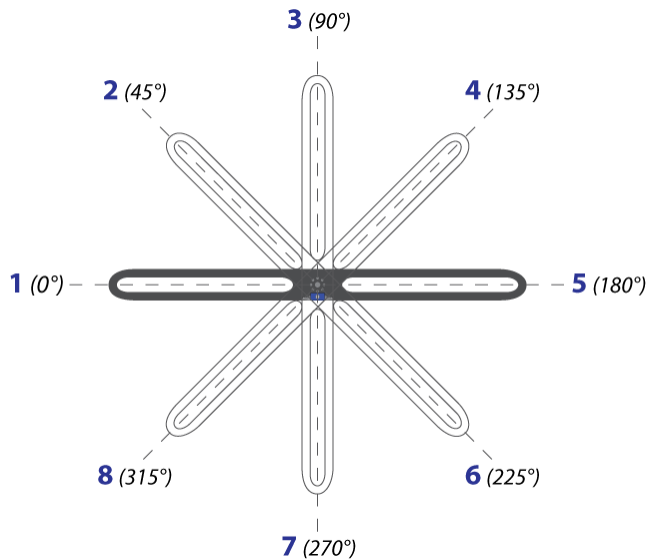
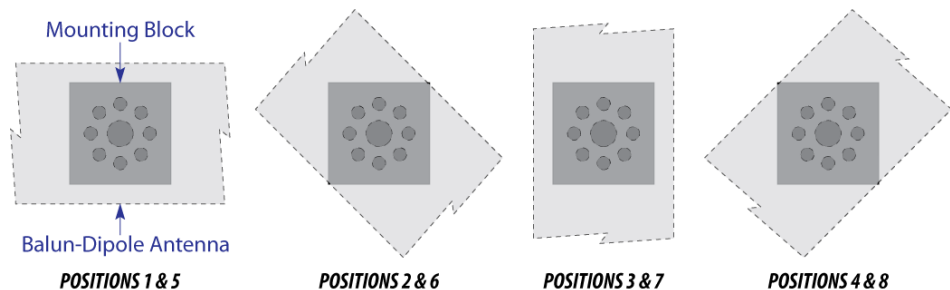

Figure 26 - Balun-Dipole Positions During Calibration
Figure 27 - 'Keyed' Mounting of Balun-Dipole onto Mounting Block
The calibration is performed according to Annex A of CISPR 16-1-4. Calibration is performed on each of the three (3) loops, each with the Balun-Dipole transmitting antenna oriented in eight (8) different positions, for a total of 24 sets of measurements to be performed over the frequency range of 9 kHz to 30 MHz. The eight (8) positions are illustrated in Figure 26. The Balun-Dipole mounting block is 'keyed' to the Balun-Dipole, so that it can be mounted into the exact prescribed positions, as shown in Figure 27.